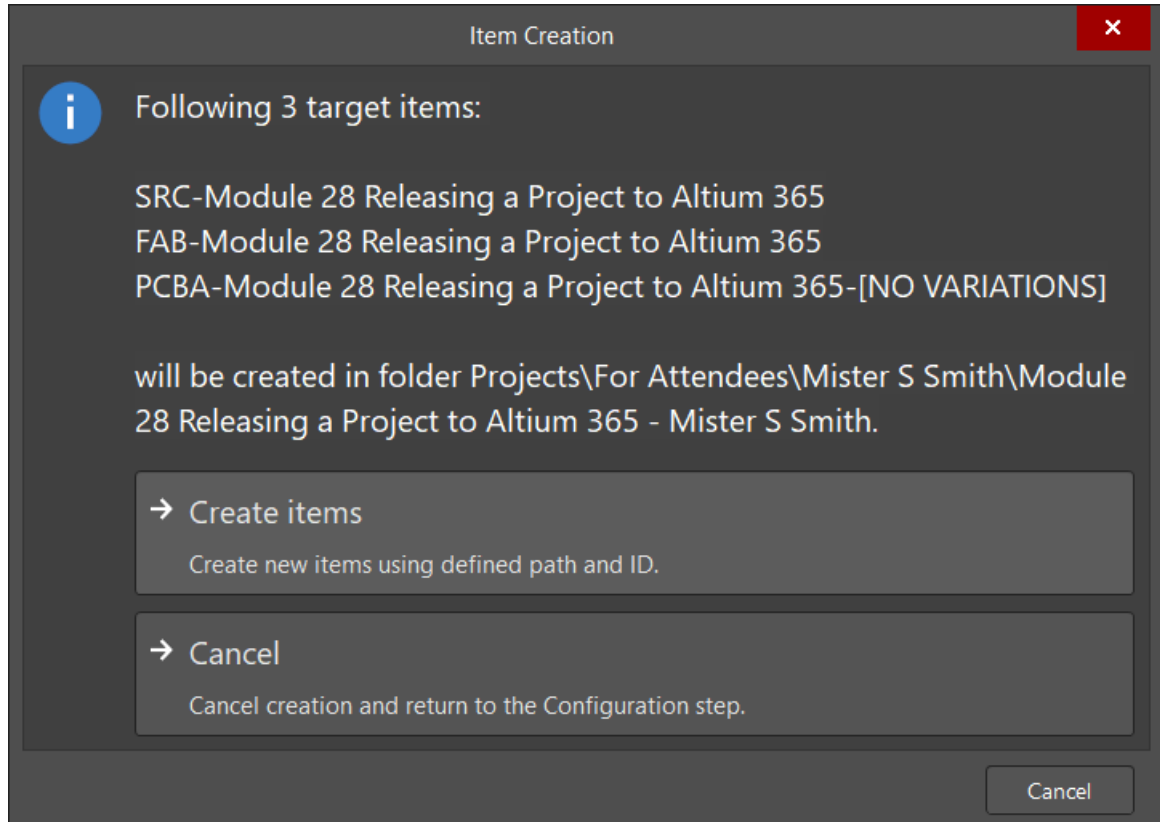

Figure 3. Item creation for release process
12. If the Tools is ready, it will show you a dialog similar to the dialog you see at Figure 3. Select **Create Item** if you are ready to create the Items.